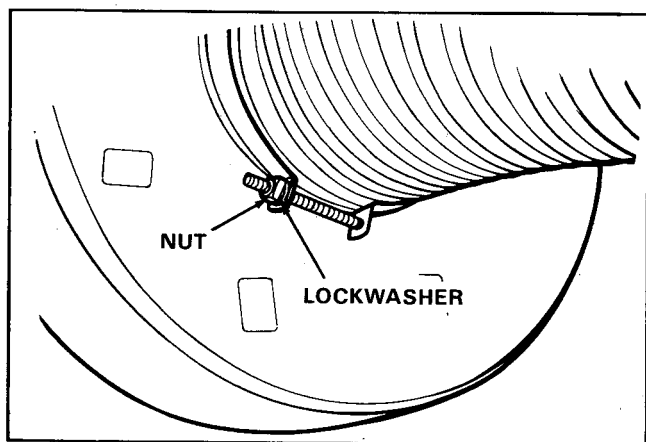

Figure 4. Installing Inlet Hose
3. Insert one of the 3 inch long screws through the clamp, and tighten clamp securely with lockwasher and nut provided (see figure 4). Position this screw out of the way at bottom as shown.
4. Insert the 3 inch screw provided through clamp, and tighten clamp securely with the lockwasher and nut. Position this screw out of the way at bottom as shown in figure 4 for the inlet hose.